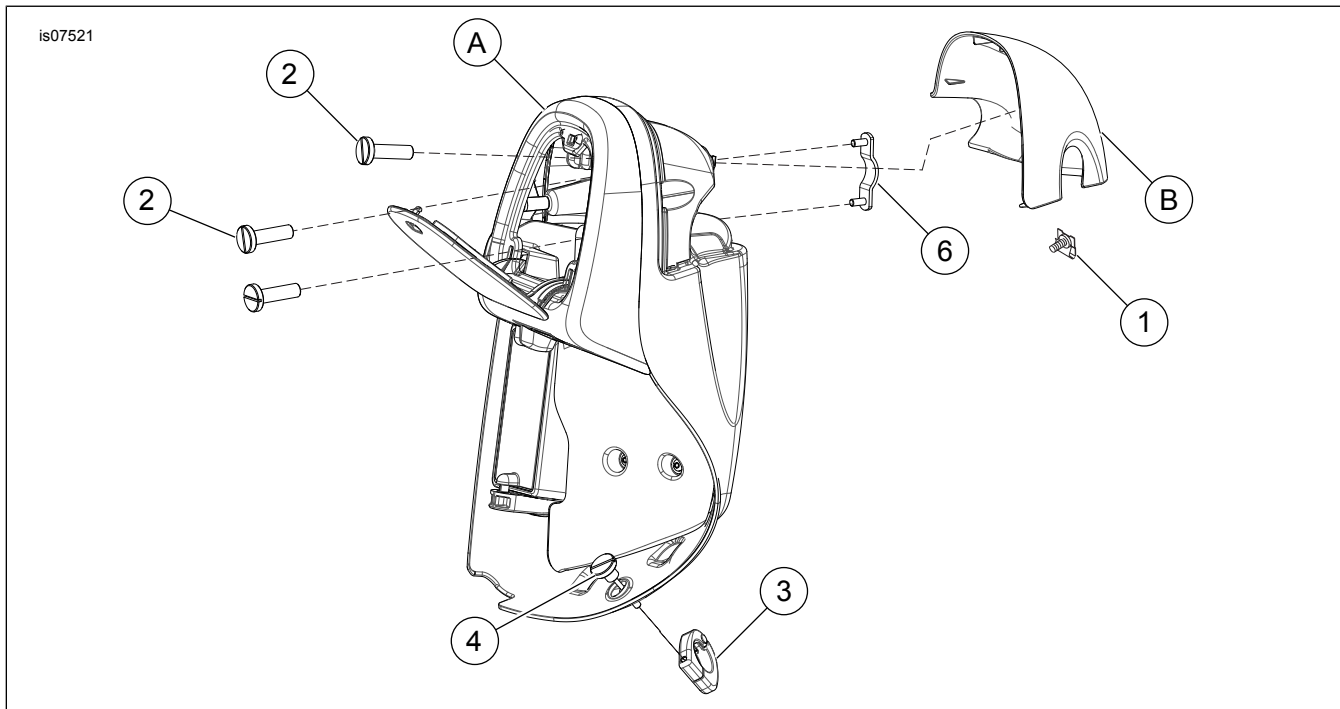

Figure 3. Service Parts: Detachable Fairing Lower Hardware Kit
See Figure 3 and Table 1.
1. See Figure 3. Press new clip retainer bolt (1) onto clip mount.
- See Figure 3. Insert thumb screw (4) through top side of fairing lower (A). Apply small amount of anti-seize lubricant to thumb screw (4). Thread thumb screw (4) into top half of engine guard clamp (3).